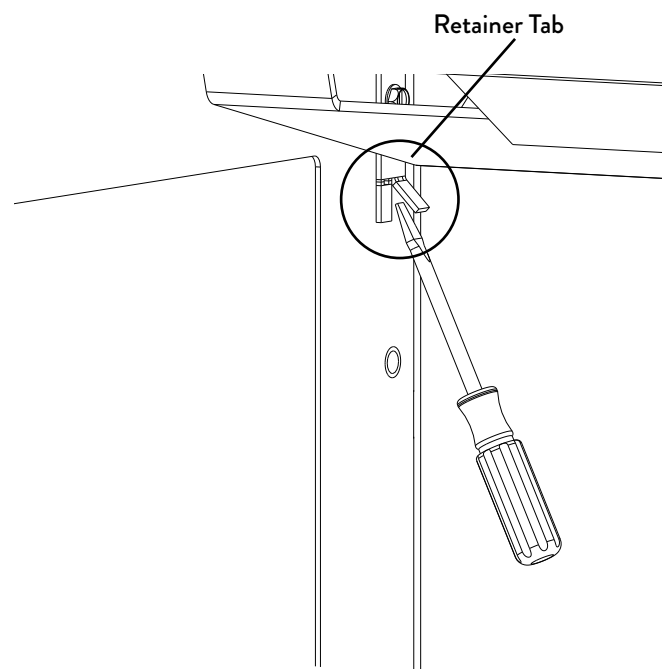

Figure 10.2. Bend Side Tabs
2. Use a flat head screwdriver to bend the rear tab at 45° to keep glass from falling forward. See fig. 10.2.